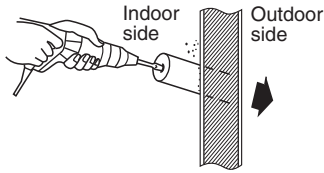

Fig. 3-20
- The positions of the refrigerant tubing connections are shown in the figure below. (The tubing can be routed in 3 directions.) (Fig. 3-20)